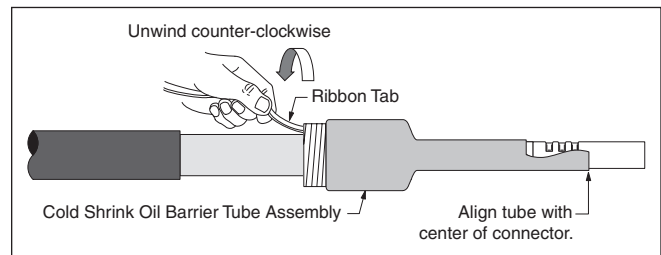

Figure 6
- 3.7 Align oil barrier tube assembly with connector center line. Install by unwinding ribbon tab counter-clockwise while maintaining alignment with center line (Figure 6).